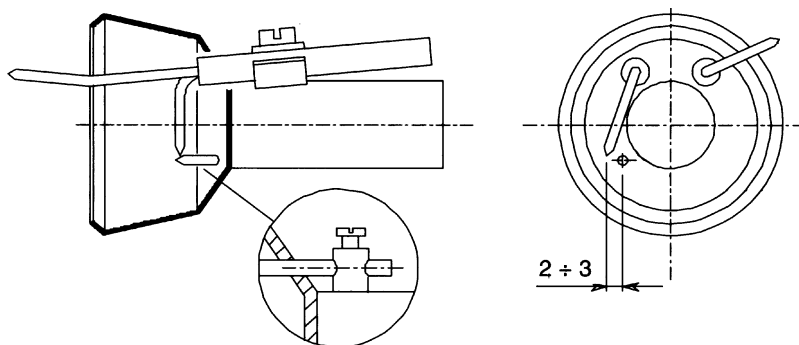
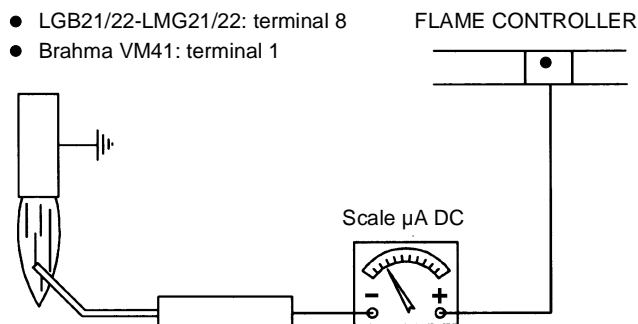

Fig. 27
Fig. 28
- Check the ignition electrode, clean and adjust it and, if necessary, replace it (Fig. 27);
- Check the detection electrode, clean and adjust it and, if necessary, replace it (Fig. 27). If in doubt, verify the detection circuit with the burner in operation, referring to the diagram in Fig. 28.
To guarantee a proper ignition, the measures indicated in Fig. 27 must be respected.
To measure the detection signal intensity, follow the scheme in Fig. 28.